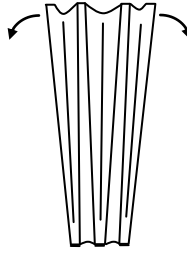

Fig. 1
1) Remove tent from bag and set hub end on ice. (Fig. 1)